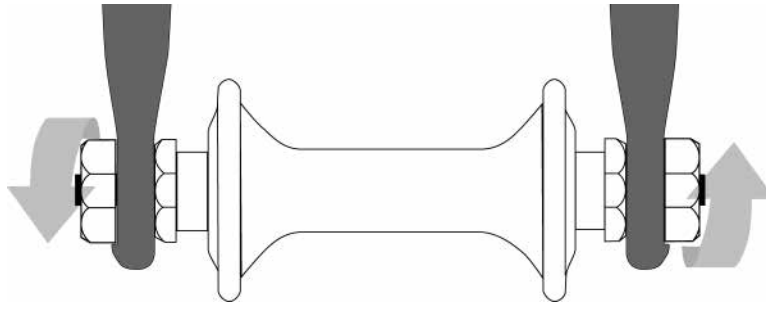

fig. 19
3. Hex nuts or hex key bolts which are threaded on to or into the hub axle (fig. 19).